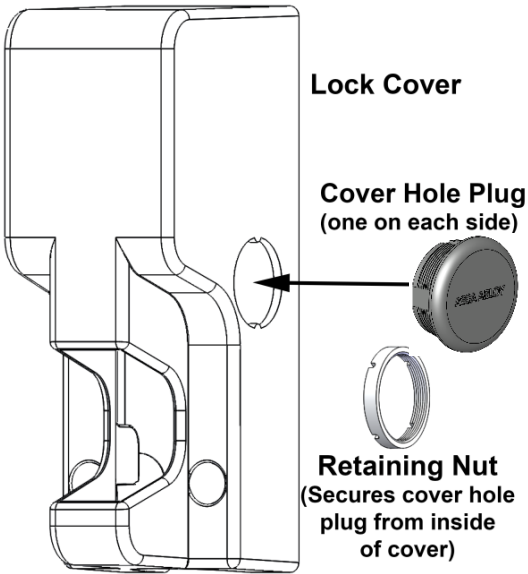

Figure 6. Cover Hole Plug and Retaining Nut
3. **INSTALL** the two cover hole plugs (provided) through both sides of the cover (see Figure 6, Cover Hole Plug and Retaining Nut”).
4. **SECURE** the cover hole plugs in place using the retaining nuts and provided cylinder nut tool (see Figure 6, “Cover Hole Plug and Retaining Nut”).